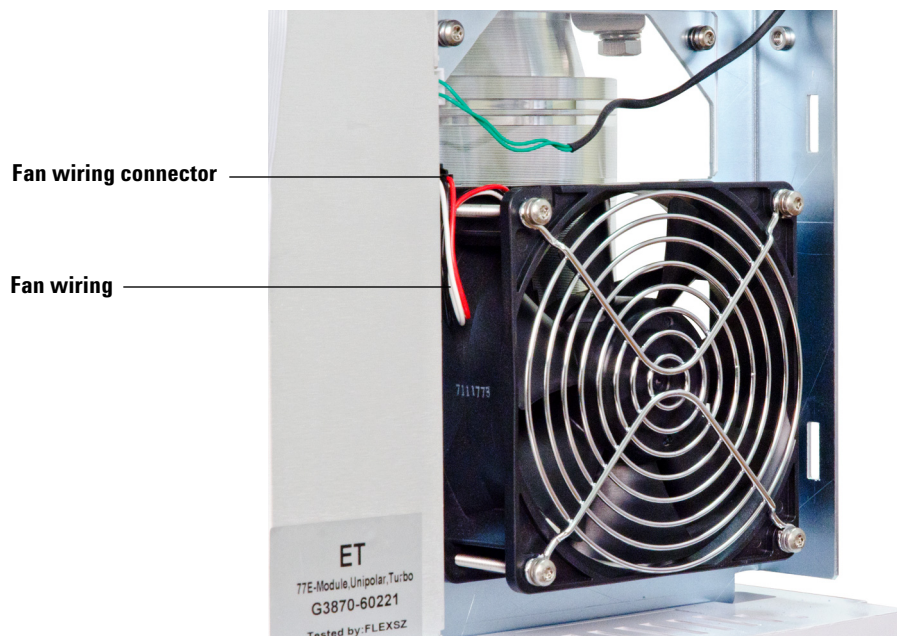

Figure 16 Replacing the pump fan (turbo pump shown)
- 3 Disconnect the fan wiring from the connector on the MSD frame. See Figure 16 on page 124.